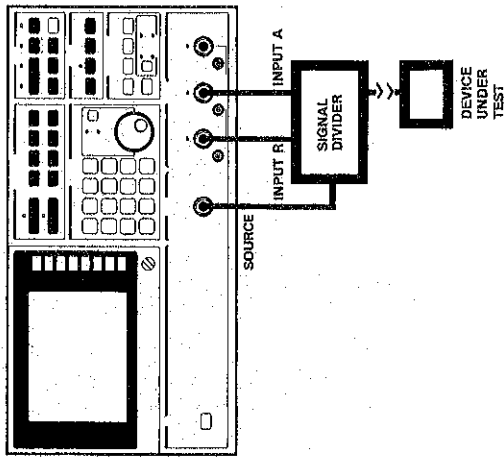

Figure 5. One Port Measurement
**Reflection Coefficient/Return Loss.** After one port calibration, the HP 3577A is automatically configured to display the reflection coefficient or return loss of the device connected to the test port (see Figure 5). The calibration procedure selects **USER DEF INPUT F2**, which is defined as corrected A/R, for display by the active trace. The reflection coefficient is displayed by selecting **LIN MAG** display function, and return loss is displayed by selecting **LOG MAG** display function. Alternating between the **LIN MAG** and **LOG MAG** display function redisplay the measurement in the new format; thus recalibration is unnecessary.